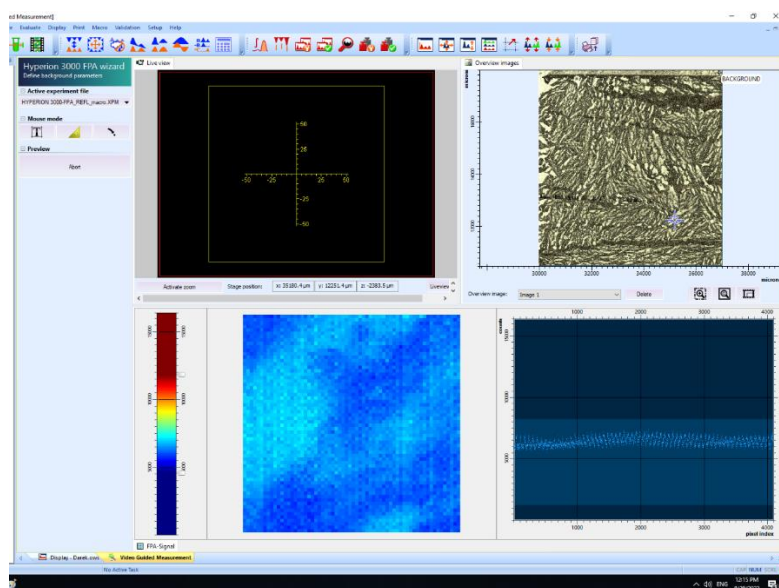

Fig. 6. The “Live spectrum” option
2. The next step is choosing the place for background measurement and the parameters of the FPA detector. For transflection mode, the clean, reflective part of the sample's substrate is needed. For reflection reflective mirror (the microscope equipment). Because visible light and infrared light do have not the same paths, the correction of focus for IR is suggested. For correction use the “Live spectrum” option, which allows you to view the signal on the FPA live (Fig. 6). The lower left window shows the integration for each pixel of the entire spectrum. By moving the table up or down with the joystick, sharpen the edges of the sample